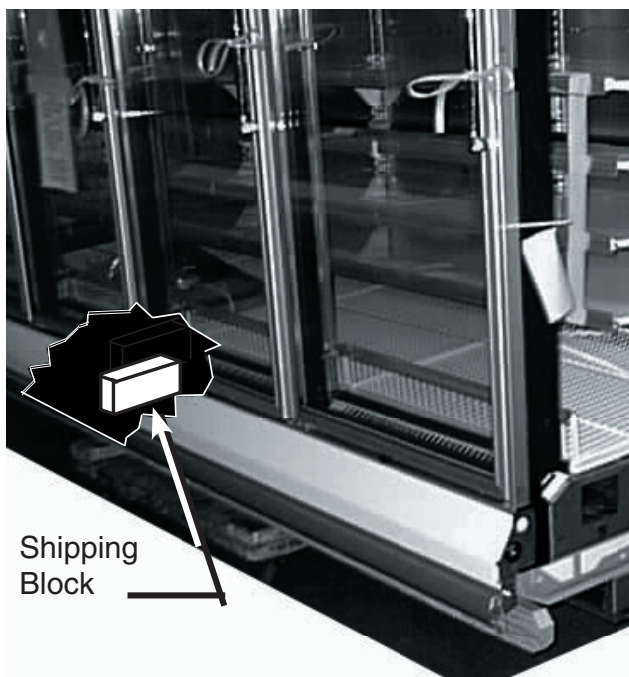

Figure 2. Remove Shipping Block(s)
- 2** Locate and remove any shipping block(s) near the heat exchanger in the interior bottom of each case, see Figure 2.